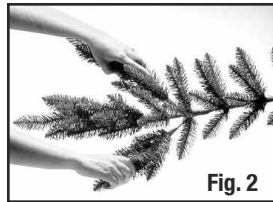

Fig. 2
If your tree has a plastic stand, slide legs upward into slots at base of bottom section (Figure 2) and tap lightly with a hammer until secure. **WARNING:** Using excessive force to assemble base may cause breakage.
2. Insert the top tree section into the green plastic opening of the lower tree assembly. This is the "pole cap" which keeps tree top section securely in place (Figure 2).
2. Each branch tip must be shaped to it's proper position to give the tree a natural look. This is done by gently grasping the left and right wing tips and spreading them out away from the center tip (Figure 2).